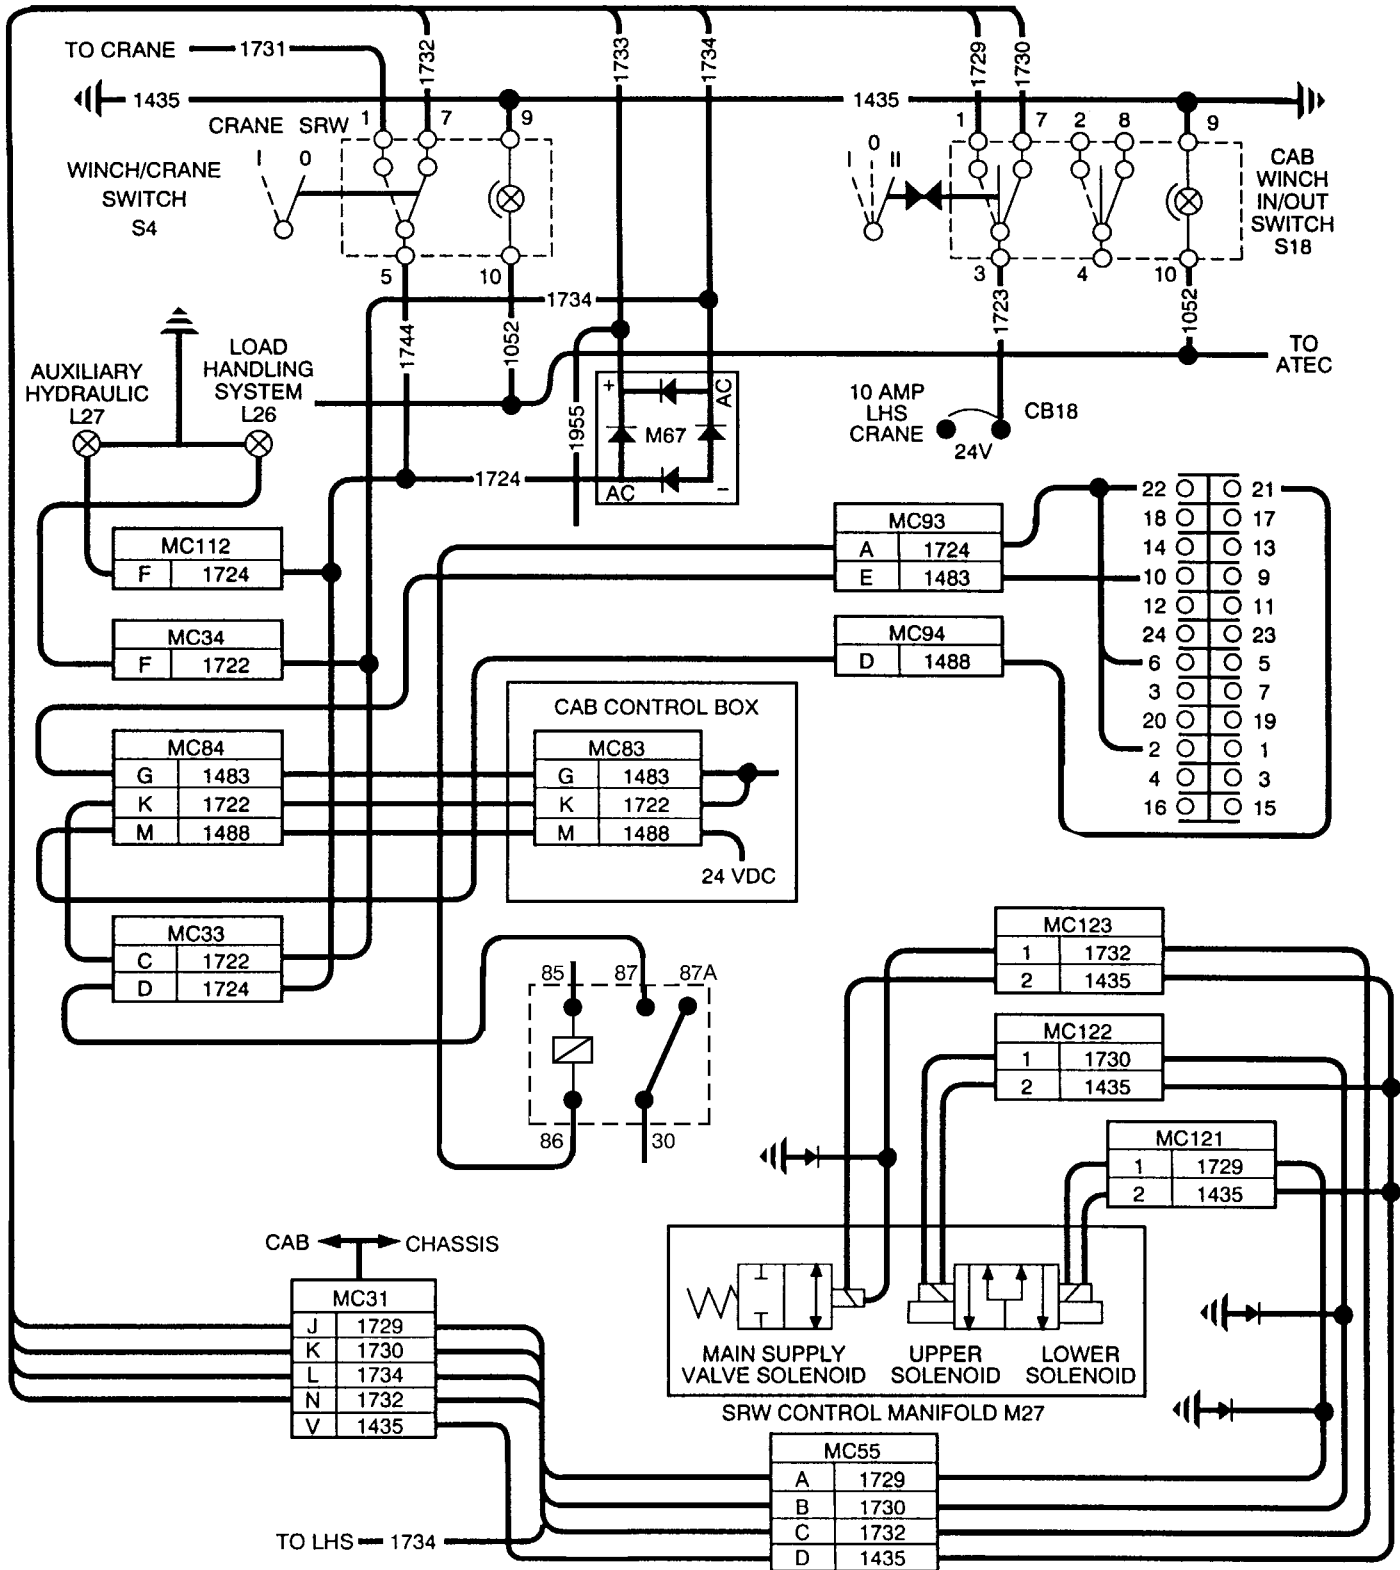

Figure 2-65. Winch Wiring Schematic
This paragraph covers Self Recovery Winch (SRW) System Troubleshooting. The Self Recovery Winch (SRW) System Fault Index, Table 2-55, lists faults for the Self Recovery Winch (SRW) system of the PLS truck. Refer to schematics Figure 2-65 and 2-66 when performing tests and corrective actions.
- (1) Remove six screws and tilt ECB side panel.
- (2) Disconnect WINCH/CRANE switch harness connector.
- (3) Set multimeter select switch to ohms.
- (4) Is there continuity between terminals 5 and 7 on the CRANE/WINCH switch?
- (b) If there is continuity, CRANE/WINCH switch is OK. Repair wire 1732 (see schematic Fig 2-65) or notify DS Maintenance. Go to Step 6 of this Fault.
- (5) Connect WINCH/CRANE harness connector.
- (6) Install ECB side panel with six screws.